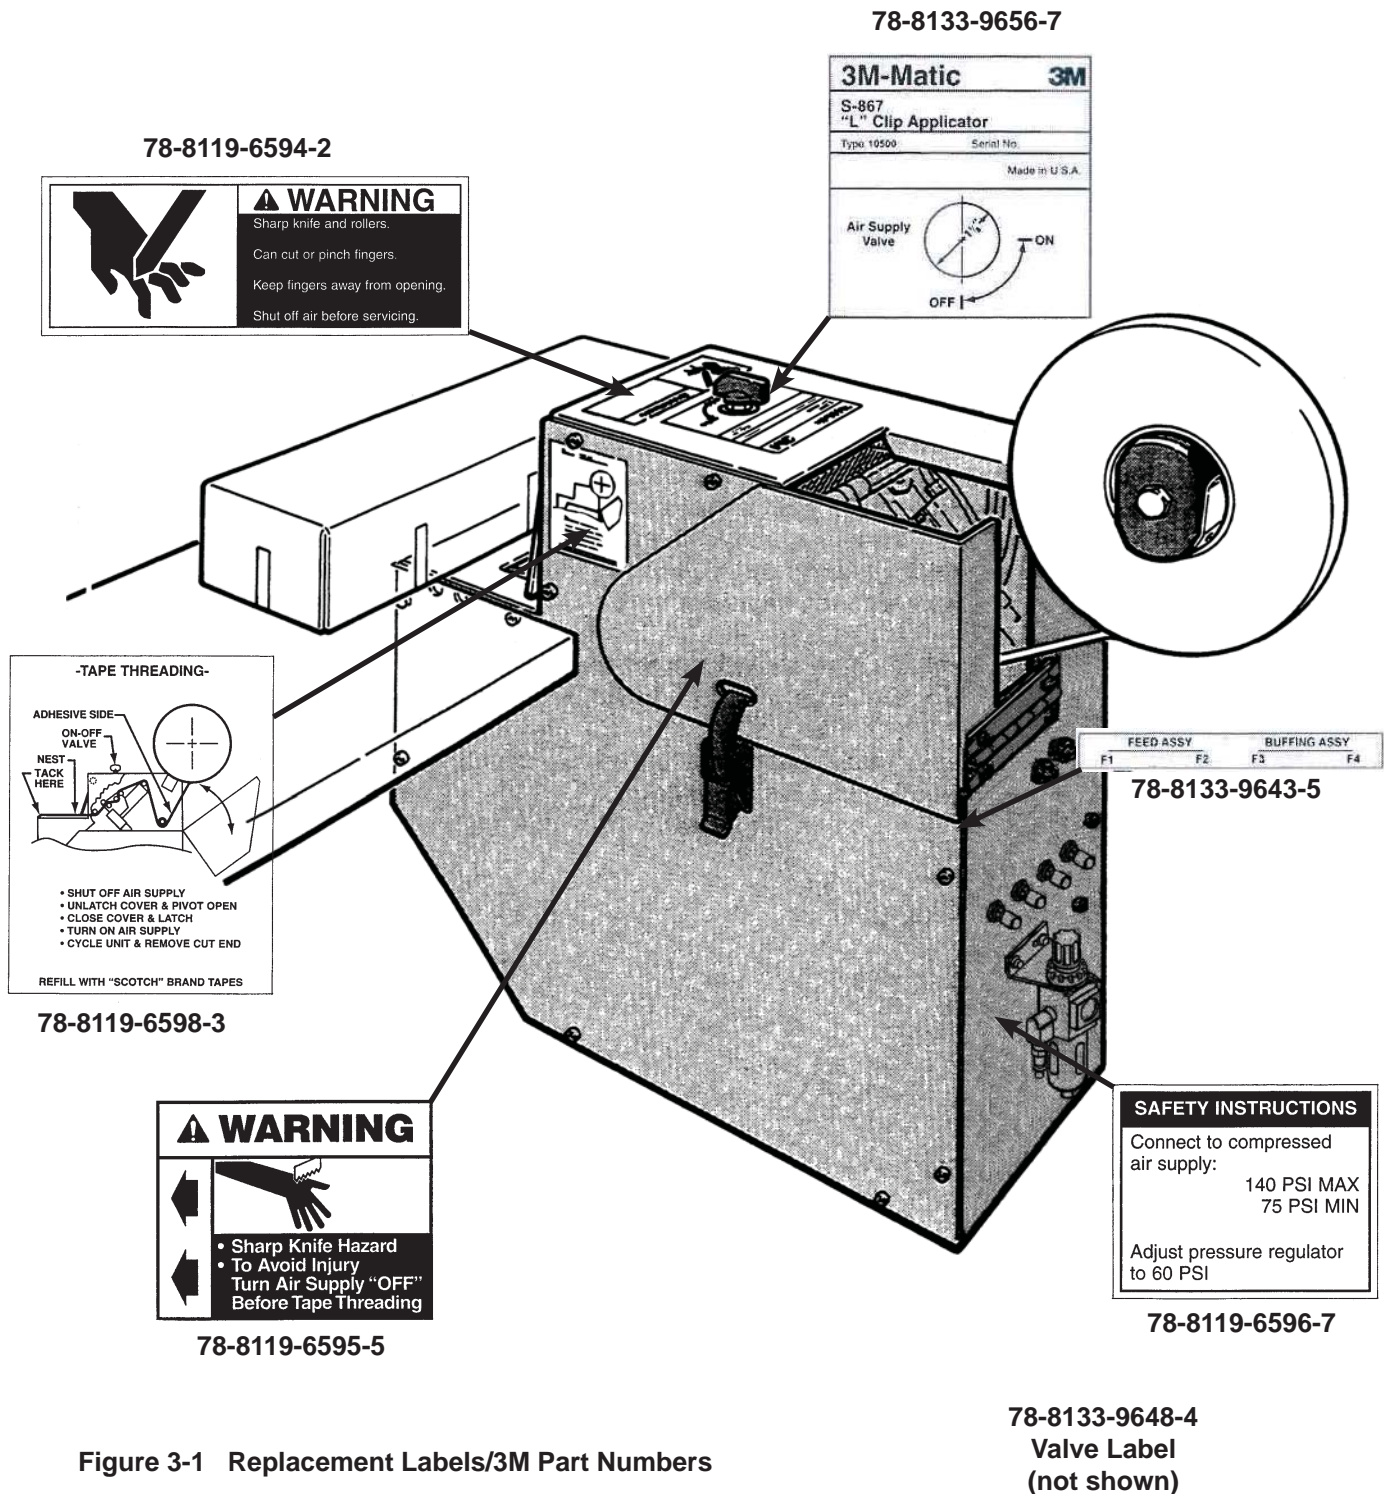

Figure 3-1 Replacement Labels/3M Part Numbers
**Important** – In the event the following safety labels are damaged or destroyed, **they must be replaced to ensure operator safety**. Replacement part numbers for individual labels are shown in **Figure 3-1**, or a label kit part number 78-8137-0223-6, is available that includes all labels used on the machine.